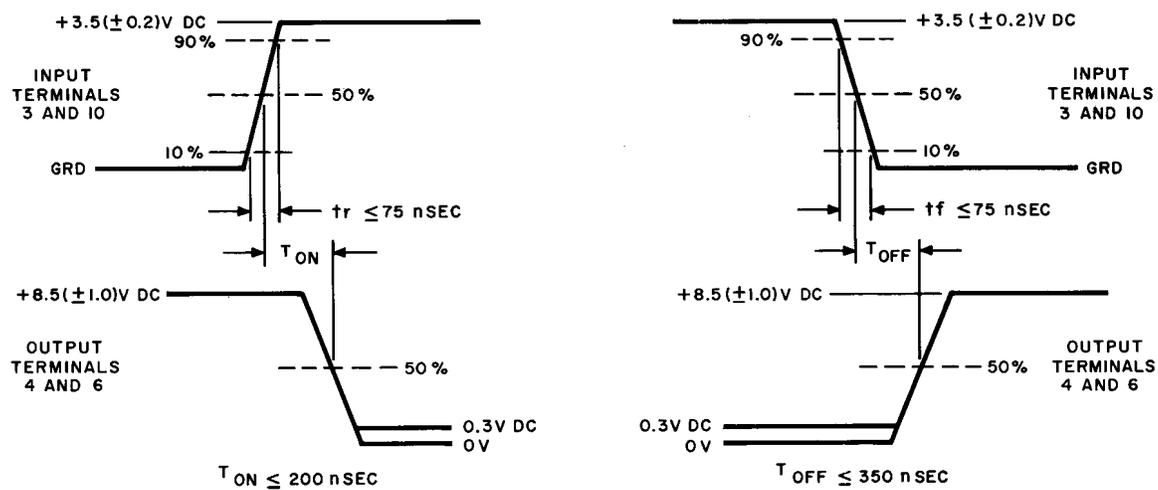

Fig. 30A — Transmitter Output Test
- (3) The input waveforms on terminals 3 and 10 and the output waveforms on terminals 4 and 6 shall be as specified in Fig. 30A.